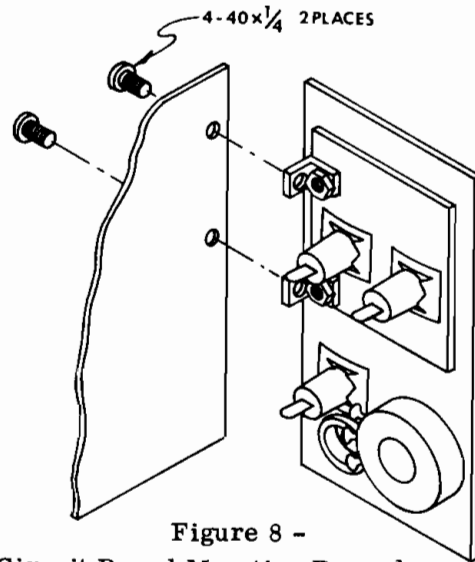

Figure 8 -
- ( ) Using two 4-40 X 1/4" machine screws mount the 8780 D/A circuit board to the front panel as shown in figure 8.